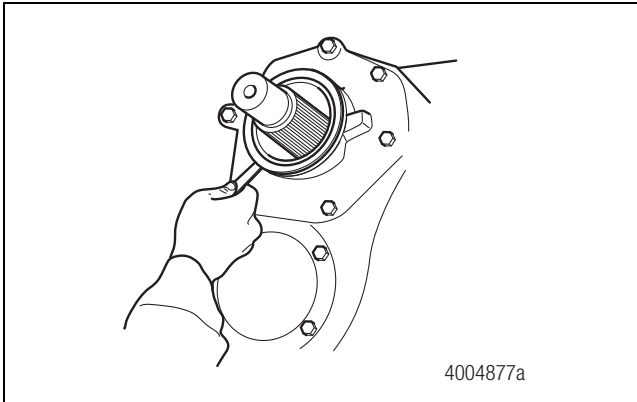

Figure 5.106
9. Use a feeler gauge to check the seal gap at all three axle positions. The seal is correctly installed if the gap is less than 0.005-inch (0.127 mm) around the circumference of the seal flange. Figure 5.106.